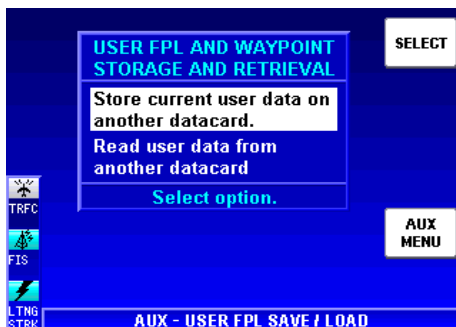

Figure 1-188
3. Press the **SELECT** Softkey to display Figure 1-188.